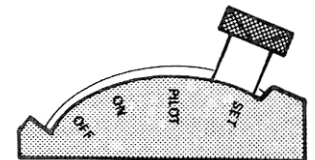
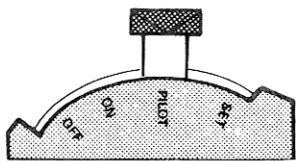

FIGURE 2
FIGURE 3
- DO NOT insert any object other than suitable pipe or tubing in the inlet or outlet of this control. Internal damage may occur and result in a hazardous condition. A backup wrench should only be used on the wrench boss provided for this purpose (see figure 2 on previous page), never on body of the control, as this could distort the casting. NOTE: Do not overtighten any pipe connections, as this could crack the valve body. A valve with a cracked valve body will not be warranted.
- If you don't smell gas, hold match at pilot burner. **WARNING:** If pilot lights without moving selector arm to the "set" position, replace control. Push selector arm to the "set" position and hold it while lighting the pilot burner. (See figure 2.) Allow pilot to burn approximately 1 minute. If pilot does not remain lit after returning selector arm to "pilot" position, (see figure 3), repeat operation allowing longer period before releasing the selector arm. (Adjust pilot, if necessary, as noted under Pilot Burner Adjustment.) The thermocouple may also be defective and should be checked (see Service Instructions).